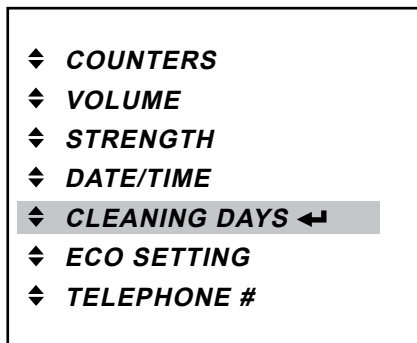

Fig. 42
- Press the enter button ◀ to access the «CLEANING DAYS» menu (fig. 42).